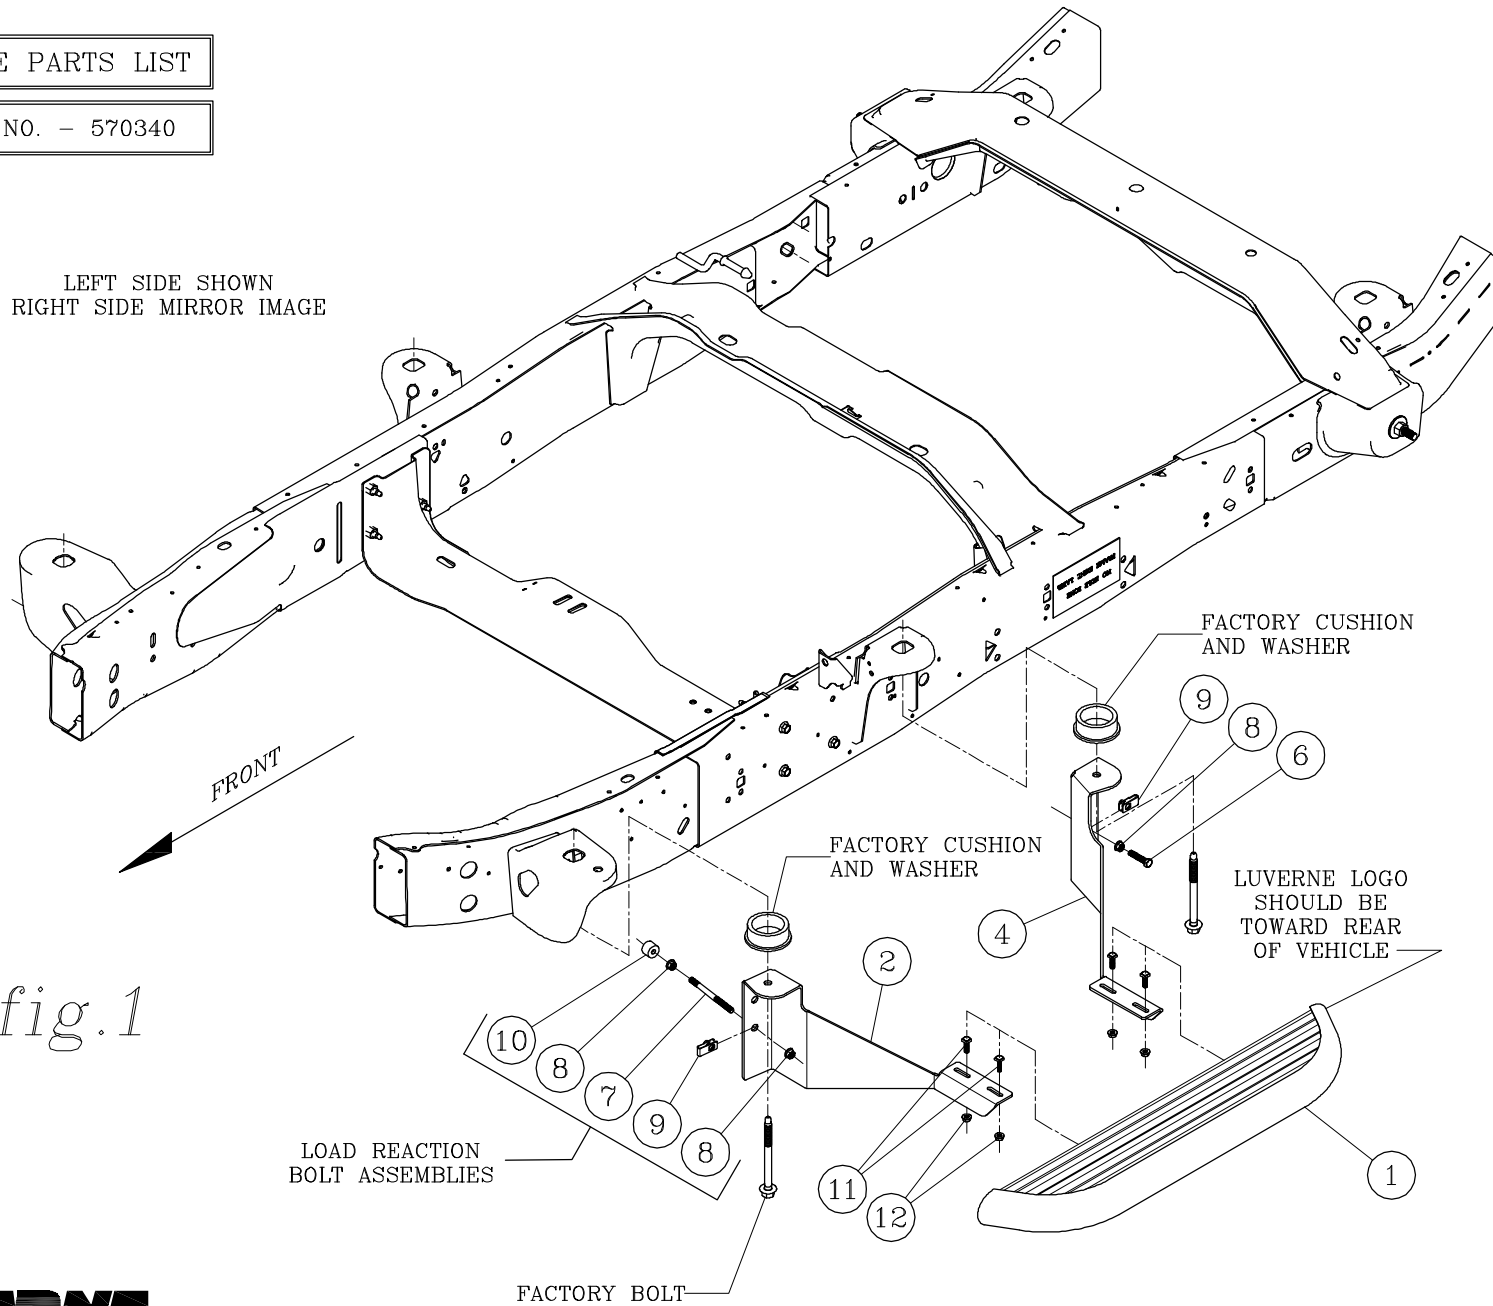

fig.1
2. INSTALL THE MULTI-THREAD U-NUT (ITEM #14) ON THE FRONT MOUNTING BRACKET (ITEM #3) AND ASSEMBLE THE 3/8"-16 X 5 STUD (ITEM #11), 3/8"-16 SERRATED FLANGE NUTS (ITEM #13) AND THE .354 X 1.00 X .748 RUBBER WASHER (ITEM #17) INTO THE U-NUT (ITEM #14) (**LOAD REACTION BOLT ASSEMBLY**) AS SHOWN IN *fig. 1*.
5. INSTALL THE MULTI-THREAD U-NUT (ITEM #14) ON THE SECOND MOUNTING BRACKET (ITEM #5) (**USE THE TOP HOLE ON 1500 VANS AND THE BOTTOM HOLE ON 2500 & 3500 VANS**) AND ASSEMBLE THE 3/8"-16 X 1-1/4" SCREW (ITEM #10) AND 3/8"-16 SERRATED FLANGE NUT (ITEM #13) INTO THE U-NUT (ITEM #14) (**LOAD REACTION BOLT ASSEMBLY**) AS SHOWN IN *fig. 1*.